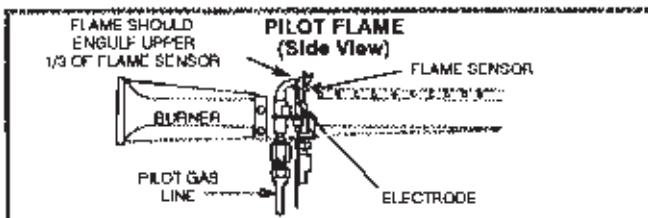

FIGURE 7
- 1- *Pilot Flame* — Pilot flame must surround the end of thermocouple for proper operation of pilot safety circuit. See figure 7.